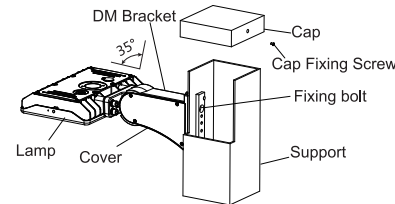

Figure 20
4. DIRECT MOUNTING (DM)
Step 1: Open the side lid of direct bracket, pass the power cable through the direct bracket. Fix the direct bracket to the end of lamp body with bolt. Pass the pole cable through the direct bracket(Figure 20);